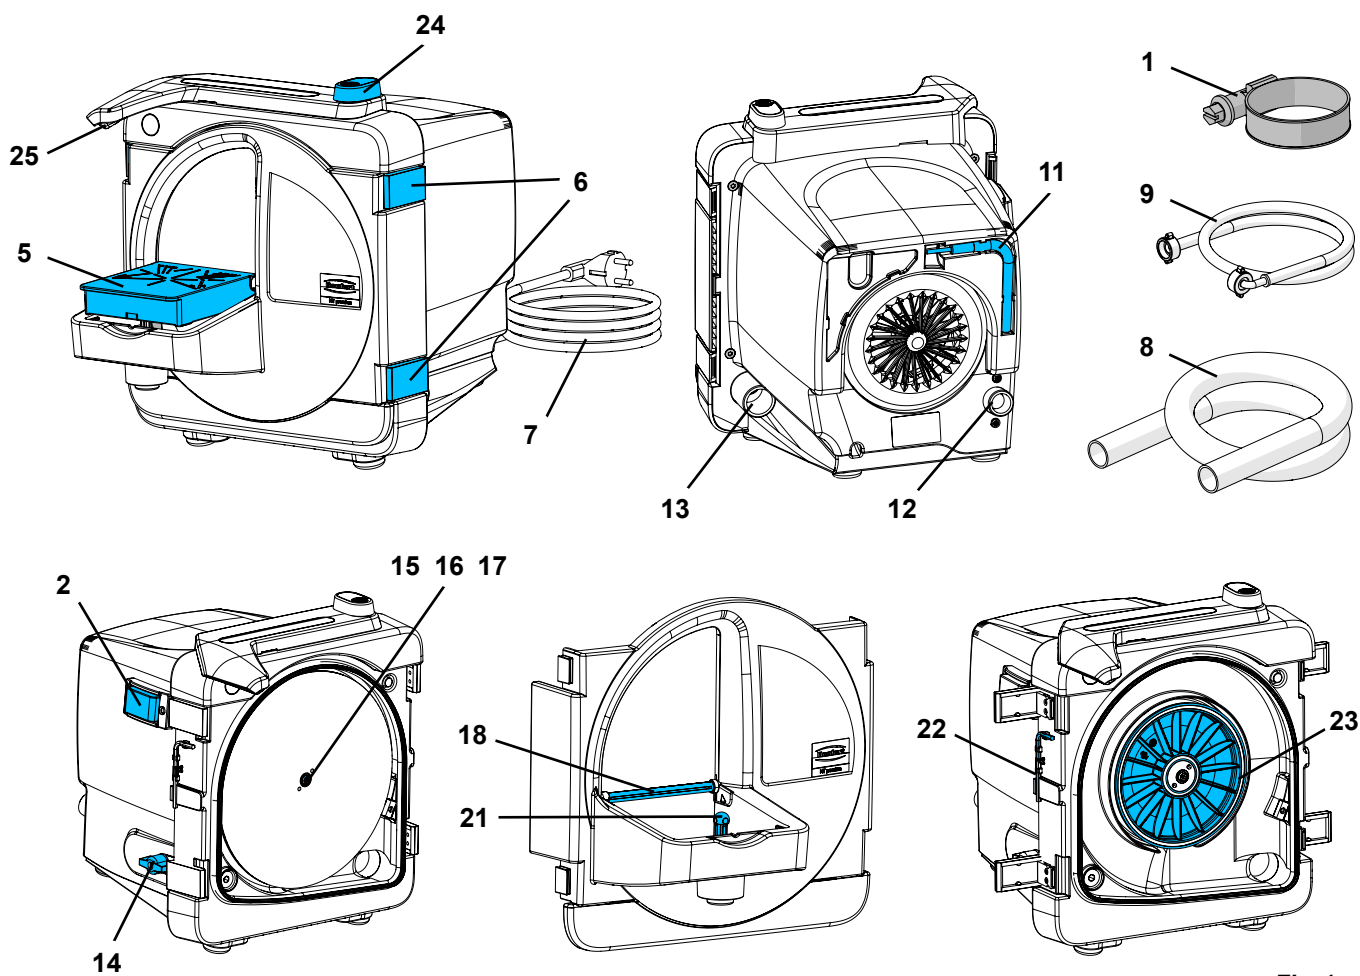

Fig. 1
- ⇒ Connect the power plug (7, Fig. 1).
The unit is switched on and off via the on / off switch (2, Fig. 1).